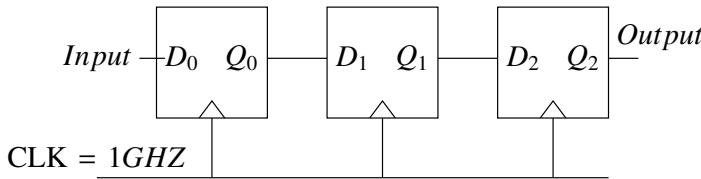

Fig. 5.7
7. Implement the synchronous sequential circuit shown below in Fig. 5.7 with a clock frequency of 500Hz. (GATE EC 2023)